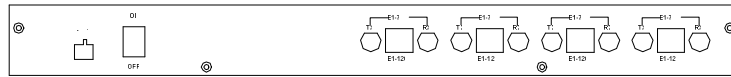

Figure6 DC input rear panel of AN-4E1-4ETH Interface Converter
- The DC input rear panel of AN-4E1-4ETH Interface Converter is shown in figure 6.